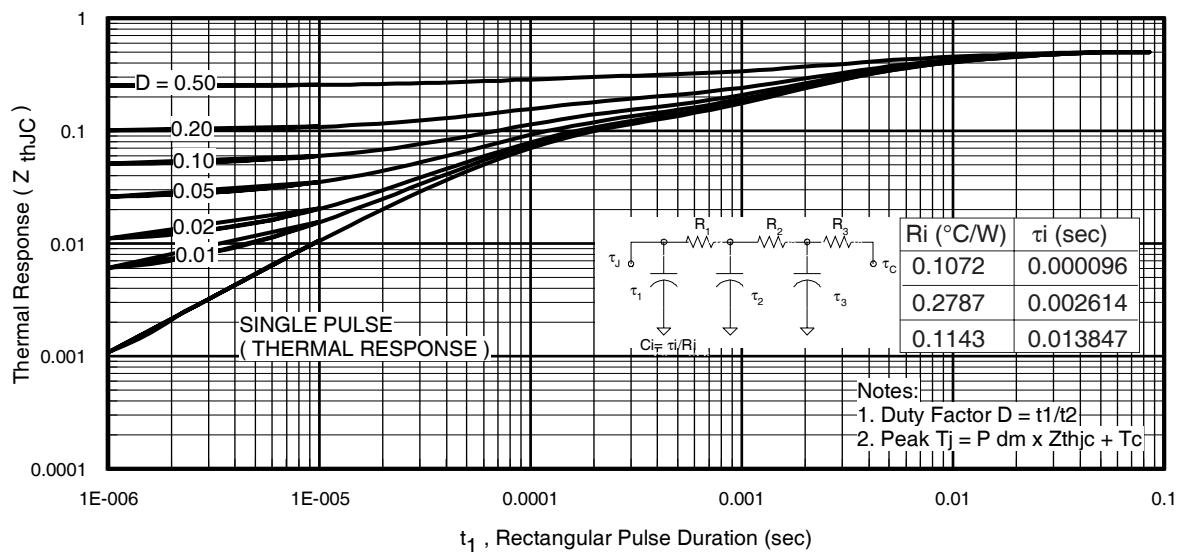
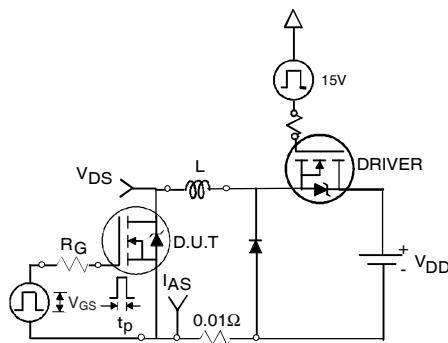

Fig 11. Maximum Effective Transient Thermal Impedance, Junction-to-Case
Fig 12a. Unclamped Inductive Test Circuit
- ① Repetitive rating; pulse width limited by max. junction temperature. (See fig. 11).
- ② Limited by $T_{J\text{max}}$, starting $T_J = 25^\circ\text{C}$, $L=0.026\text{mH}$, $R_G = 25\Omega$, $I_{AS} = 110\text{A}$, $V_{\text{GS}} = 10\text{V}$. Part not recommended for use above this value.
- ③ Pulse width $\leq 1.0\text{ms}$; duty cycle $\leq 2\%$.
- ④ $C_{\text{oss eff.}}$ is a fixed capacitance that gives the same charging time as C_{oss} while V_{DS} is rising from 0 to 80% V_{DSS} .
- ⑤ Limited by $T_{J\text{max}}$, see Fig.12a, 12b, 15, 16 for typical repetitive avalanche performance.
- ⑥ This value determined from sample failure population. 100% tested to this value in production.
- ⑦ This is applied to D²Pak, when mounted on 1" square PCB (FR-4 or G-10 Material). For recommended footprint and soldering techniques refer to application note #AN-994.
- ⑧ R_θ is measured at T_J of approximately 90°C .
- ⑨ Solder mounted on IMS substrate.
3. Equation below based on circuit and waveforms shown in Figures 12a, 12b.
$Z_{thJC}(D, t_{av})$ = Transient thermal resistance, see figure 11)